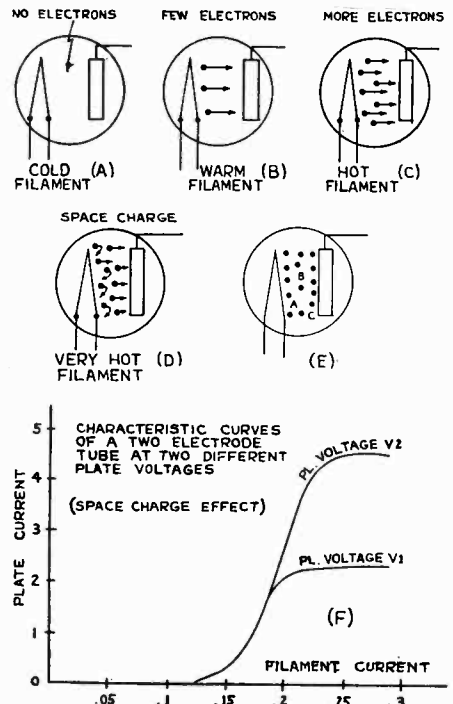

Figure 38: Space charge effect in a vacuum tube.
As the temperature is raised, the agitation of the atoms increases and electrons are boiled off into space at a faster rate. Since the electrons are negative charges of electricity, if a cold positively charged body is placed near the hot substance emitting the electrons, they will be attracted to it and will travel from the hot body to the positively charged body—since unlike charges attract. The space between the two bodies is then filled with a stream of free electrons moving from the hot body to the cold one, Fig. 38. The second body must be relatively cold so it does not also emit electrons. It was shown in Chapter 2 that free electrons in motion constitute an electric current, the direction of the current flow conventionally being considered as opposite to that of the electron flow. This means that an electric current is established in the intervening space.
61. SPACE CHARGE: Now consider a tube with fixed plate potential. When the filament is cold, since no electrons are being emitted, there is no current in the plate circuit, Fig. 38-A. If the filament is gradually heated, by increasing the current from the "A" battery, it begins to give off electrons when it has attained a dull red heat, Fig. 38-B. The number of electrons emitted by the filament increases approximately as the square of the excess filament temperature above red heat.
At any instant the space between the hot filament and plate contains those emitted electrons moving on toward the plate to be absorbed there. As the filament current is increased, Fig. 38-C, the rate of emission of these electrons increases, so that any any instant the number of electrons present in the space between the filament and plate depends on the rate of emission by the filament and the rate of attraction by the plate. The steady increase of filament temperature increases the electron emission from the filament and also the number in
In Fig. 38-E let A, B, and C be three electrons occupying different positions in the space between the filament and plate. Electron C is attracted by the plate, and is repelled toward the plate by all the electrons back of it, since they have like charges, so it will undoubtedly go to it. Electron B is attracted by the plate, repelled back by the electrons in front of it and repelled toward the plate by the electrons behind it. Electron A is urged toward the plate by the hot filament, attracted by the plate, and repelled back by all the electrons between it and the plate. Whether it will move toward the plate or reenter the filament depends on which of these forces is the greatest.
It is evident that when the electrons in the space become so dense that their combined negative charge—"space charge"—is equal to, or greater than, that of the plate, they neutralize the action of the plate and the electron flow to the plate cannot increase even though the temperature of the filament is raised. At this point any additional electrons in the space of the tube makes the space charge over-balance the plate charge and repel the excess emitted electrons back to the filament, as shown in Fig. 38-D. In order to increase the plate current at this point, the plate potential must be increased. Thus for every value of plate current, there is a certain value of filament temperature beyond which no increase in plate current can be obtained.
The phenomenon of space charge is illustrated in the graph of Fig. 38-F, where filament temperatures are plotted along the horizontal axis and plate currents along the vertical axis. For any given plate potential the plate current increases as the filament temperature rises, up to the point where the space charge becomes predominant, where the curve bends over and becomes horizontal. If the plate voltage is increased to a new value, the plate current curve rises higher before bending over, because it takes a greater space charge to offset the effect of the plate at the higher potential.